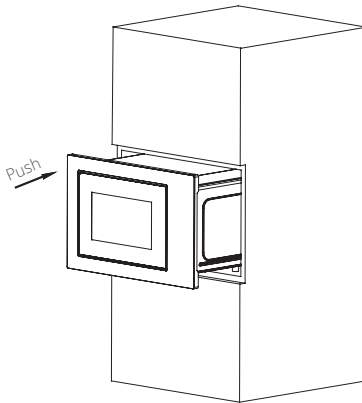

Fig. 1
- a) Put the microwave oven into built-in cabinet and push it forward to the end. (Fig.1)